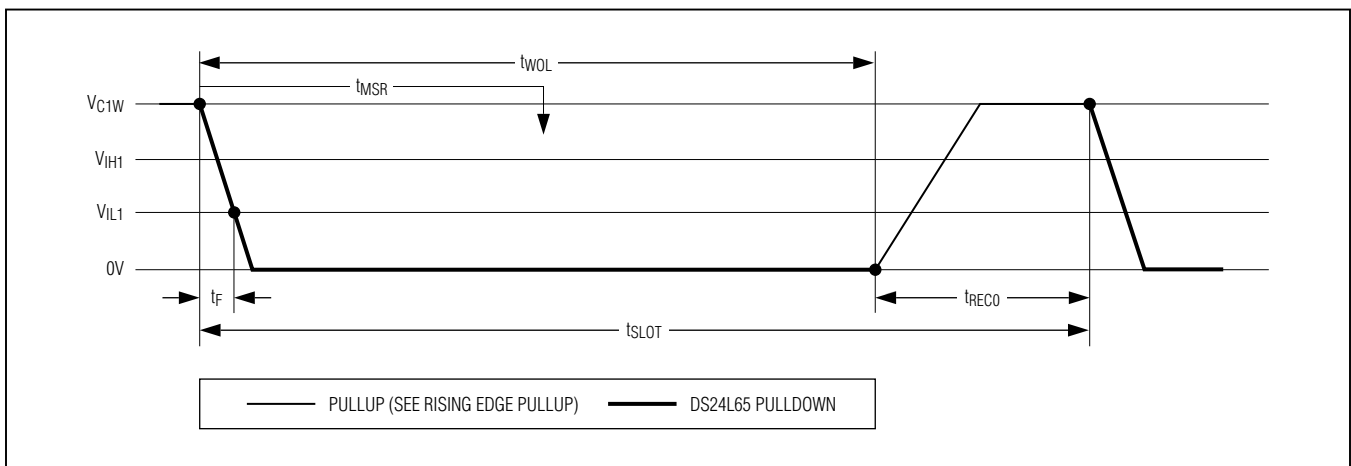
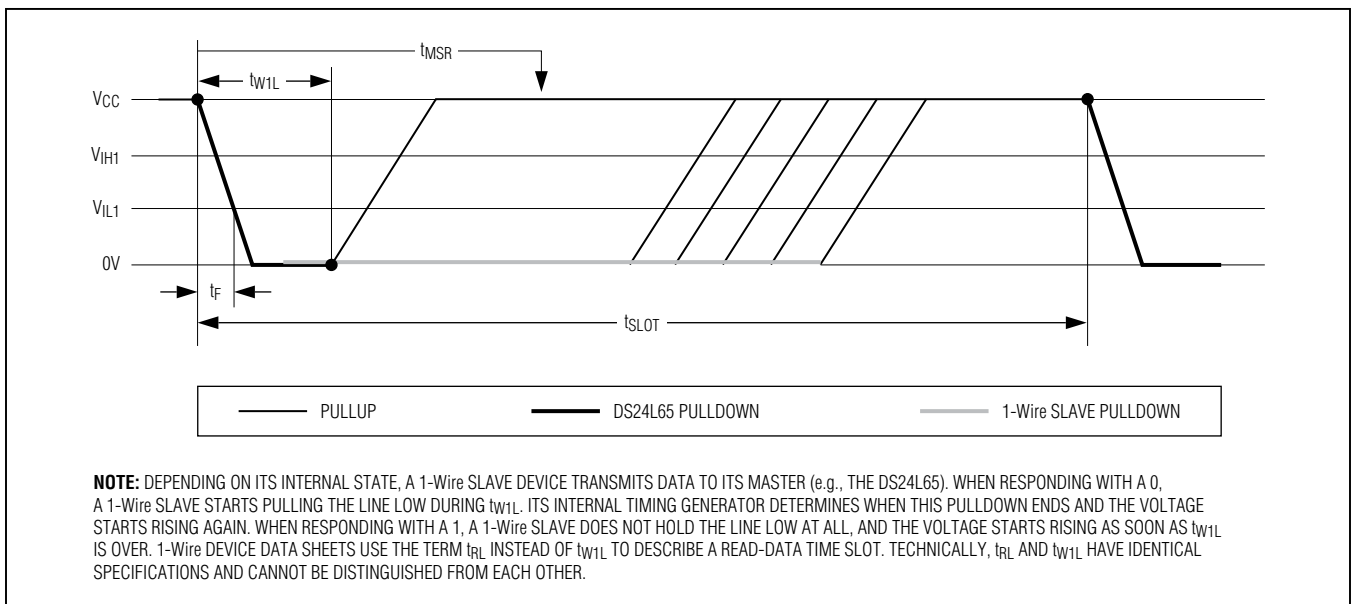

Figure 6. Write-Zero Time Slot
Figure 7. Write-One and Read-Data Time Slot
Bit 7: Bit value (V). This bit specifies the type of time slot to be generated. If $V = 0$, a write-zero time slot (Figure 6) is generated. If $V = 1$, a write-one time slot (Figure 7) is generated, which also functions as a read-data time slot.